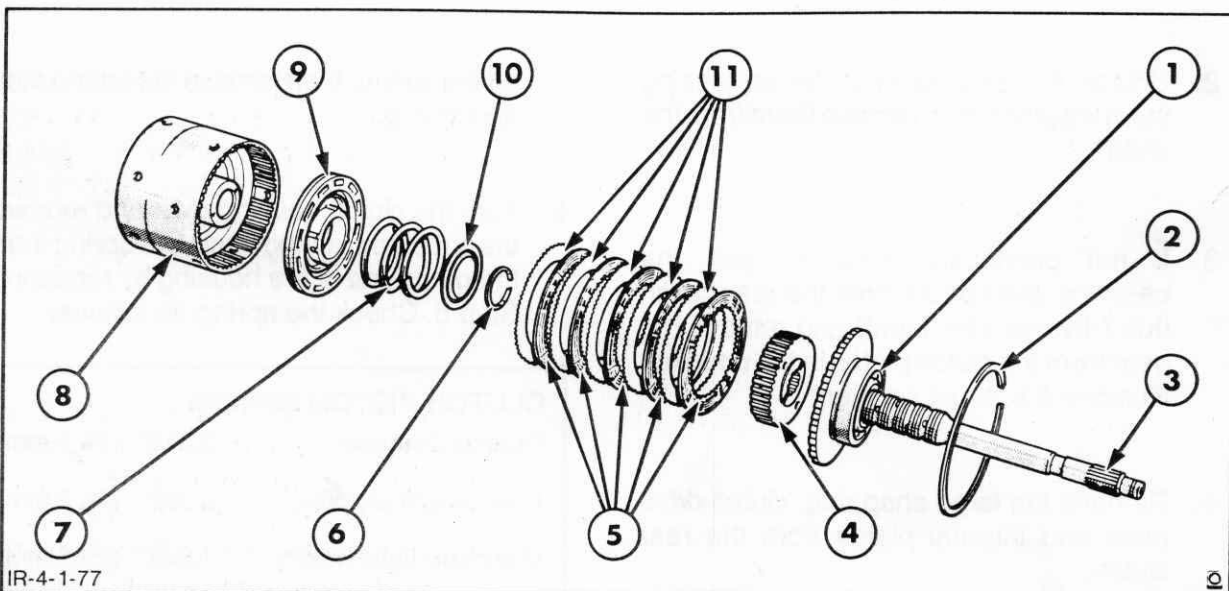

Figure 4-180
4. Inspect the working surface of the clutch pistons, Figure 4-180, for scoring. If scored, fine emery cloth may be used to smooth the surface. Ensure the O ring seal grooves are clean and that burrs do not exist.
1. Install new O ring seals on the clutch pistons, Figure 4-180, and on the hub of the clutch housing. Coat the O ring seals with grease, then install the pistons (one in each end of the housing) so they are seated against the center web of the housing.